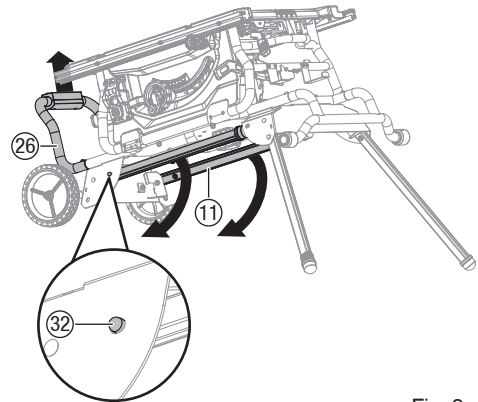

Fig. 2c
- Grasp the stand support assembly (26) and lift it up until two other stand legs (11) leaving off the ground, then fold out two stand legs (11). To do this, push the lock pins (32) until they unlock the stand legs (11) from the holes, then swing the stand legs (11) downward until the stand legs are locked with the lock pins (32) engage the holes. (Fig. 2c) Make sure the table saw is balanced with four leg stands stand on the floor.